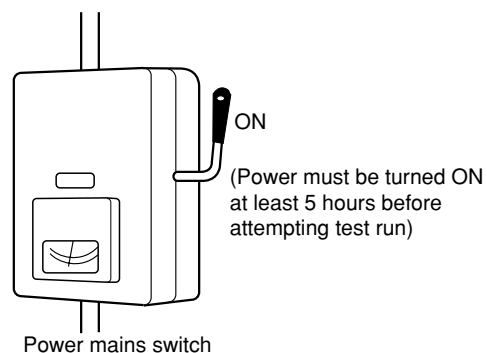

Fig. 10-1
- (1) All loose matter is removed from the cabinet especially steel filings, bits of wire, and clips.
- (2) The control wiring is correctly connected and all electrical connections are tight.
- (3) The protective spacers for the compressor used for transportation have been removed. If not, remove them now.
- (4) The transportation pads for the indoor fan have been removed. If not, remove them now.
- (5) The power has been connected to the unit for at least 5 hours before starting the compressor. The bottom of the compressor should be warm to the touch and the crankcase heater around the feet of the compressor should be hot to the touch. (Fig. 10-1)